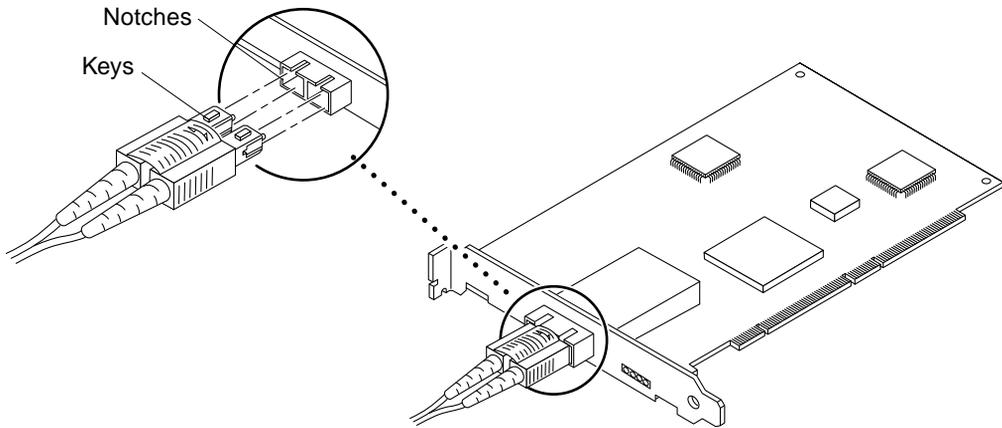

FIGURE 9-20 Removing and Replacing the GigabitEthernet Adapter Fiber Optic Cable
3. **Disconnect the fiber optic cable from the GigabitEthernet adapter card (FIGURE 9-20).**
8. **Connect the fiber optic cable into the GigabitEthernet adapter GBIC connector until you hear a click (FIGURE 9-20 on page 9-31).**